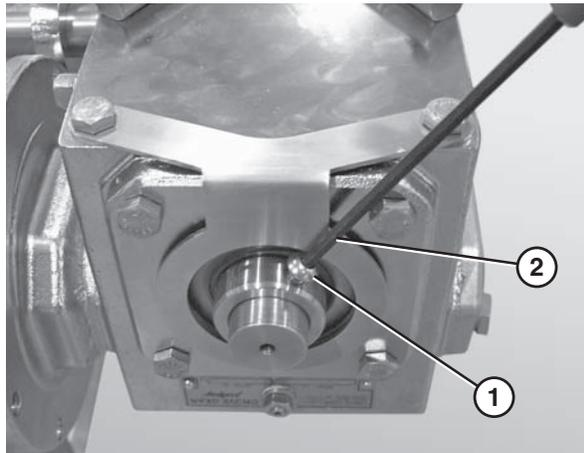

Figure 8
5. Tighten the drive spindle fasteners (Figure 8, item 1) located on the inside and outside of the gearmotor (Figure 8, item 2) using a hex wrench (Figure 8, item 2).